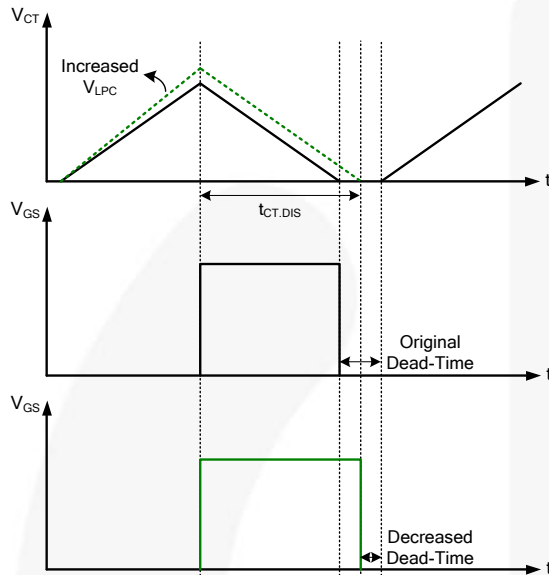

Figure 10. Decrease SR Dead-Time
If SR dead-time is too large, decrease R_1 or increase R_2 . Either way, V_{LPC} is increased and the discharge time of C_T capacitor ($t_{CT,DIS}$) is prolonged to decrease the dead-time, as shown in Figure 10. However, note that Equation (7) must be satisfied when increasing V_{LPC} .